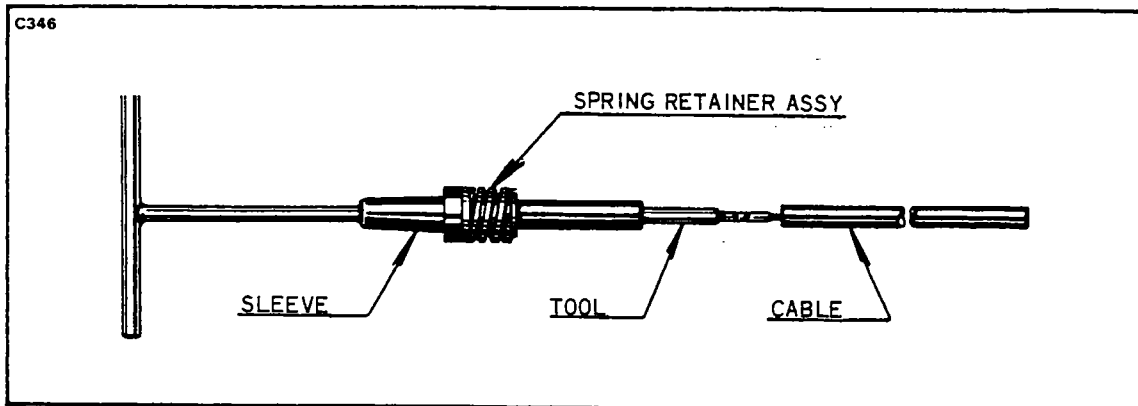

Figure 8-19. Using Assembly Tool
- (b) Push the tool thru insulating sleeve and spring retainer assembly as shown in Figure 8-19. Screw the cable terminal into the tool.